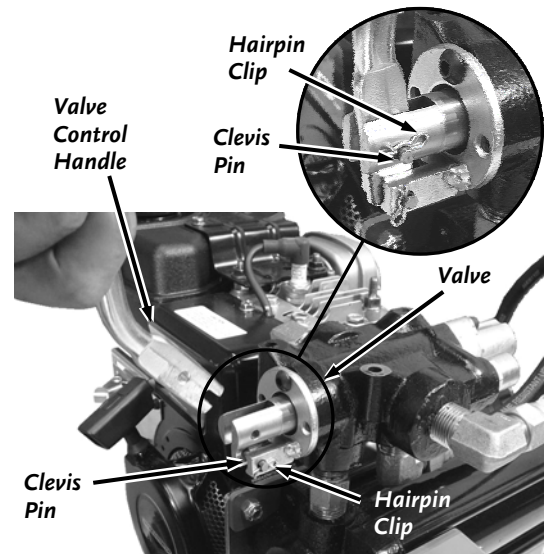

Figure 8
1. Install the Clevis Pin and Hairpin Clip through the bottom hole on the Valve (**Figure 8**).